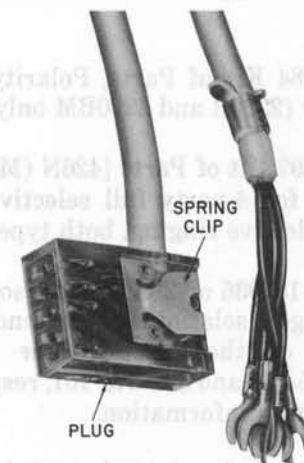

Fig. 9—D5AL Mounting Cord
- Cord, Mounting, D5AL-*, D5AN-* (D5AL-7, 14, and 25 foot lengths, Fig. 9, D5AN-6 and 12 foot lengths) AD1 base only.